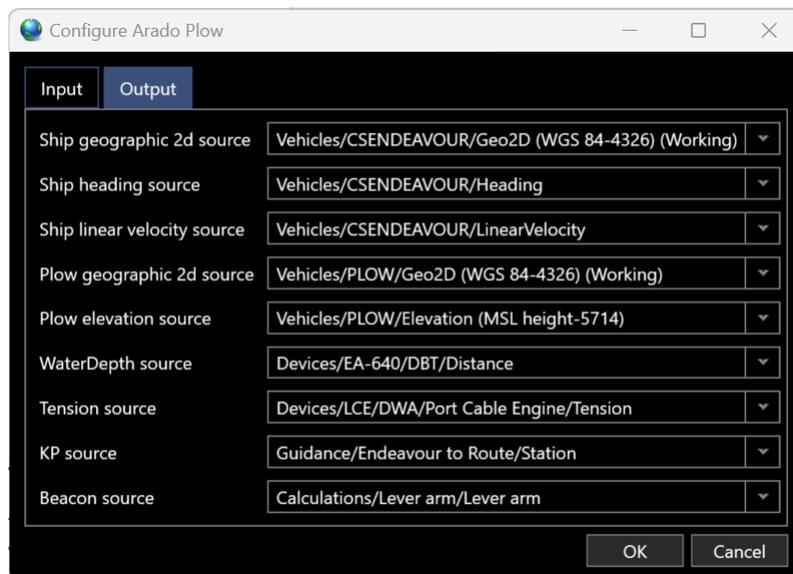

Figure 2 Arado Plow Output Configuration
- c. Figure 2 is an example of appropriate data source selections using the surface vessel's CRP position